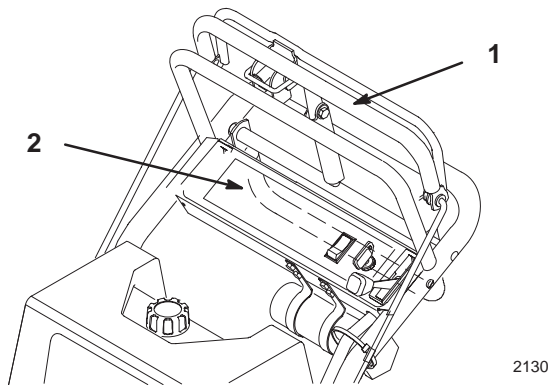

Figure 14
3. Slowly press on the upper control bar to move forward (Fig. 14).
To go straight, apply equal pressure to both ends of the upper control bar (Fig. 14).
To turn, release pressure on the upper control bar side away from the direction you want to turn (Fig. 14).
3. Slowly pull on the lower control bar to move rearward (Fig. 14).
To go straight, apply equal pressure to both ends of the lower control bar (Fig. 14).
To turn, release pressure on the lower control bar side in the direction you want to turn (Fig. 14).